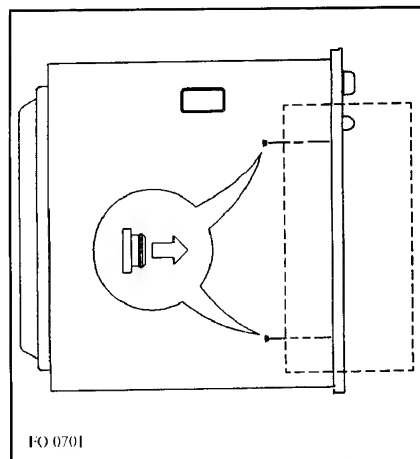

Fig. 4
**Before installing the oven, ensure that the 4 plastic buffers are correctly fitted (as shown Fig. 4). These are supplied with the oven, and are in the bag with the guarantee card.**